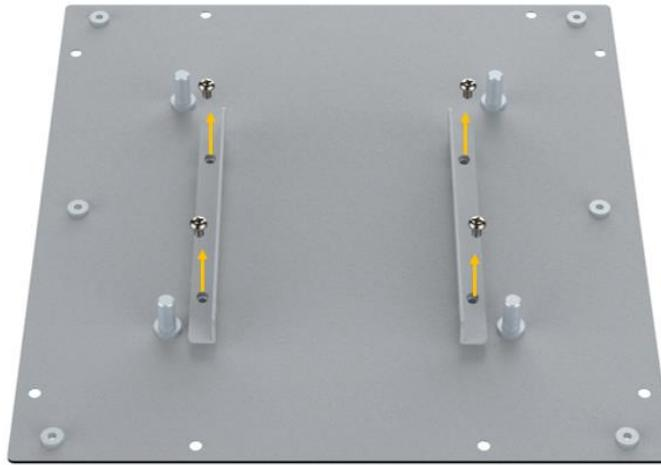

Figure 3-2: HDD Bracket Retention Screws
Step 2: Remove the bottom cover from the device and turn it over. Remove the HDD brackets by removing the four screws (**Figure 3-2**)